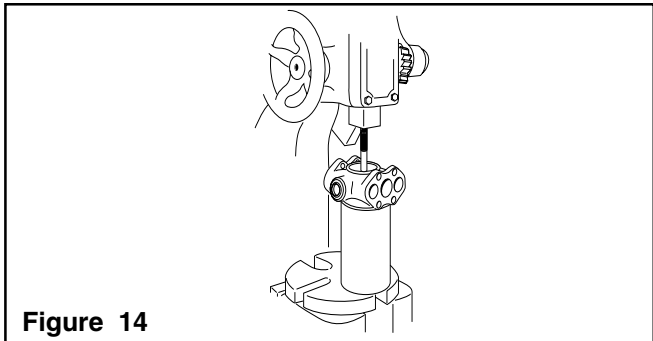

Figure 14
2. Using a metal pipe 3" in diameter by 4-1/2" high as a support fixture, place the Pump on the fixture, shaft side down. Position the fixture with Pump on the arbor press. (See Figure 14)
3. Place a bolt 3/8" in diameter by 4-1/2" long threaded end up on the Crankshaft Cam Bearing; then, using the arbor press ram on the bolt, push the Crankshaft Assembly out of the Pump Body (See Figure 14).